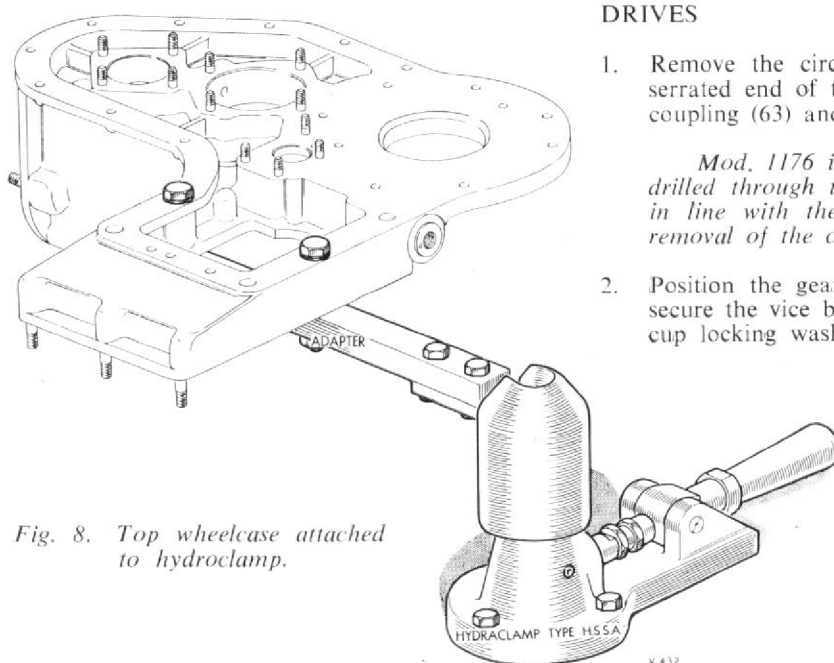

Fig. 8. Top wheelcase attached to hydroclamp.
3. Using two slave bolts and nuts, secure the wheelcase to the adapter, Fig. 8.